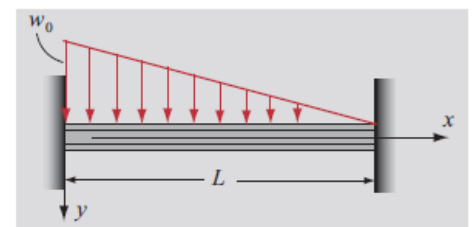

Figure 2.
4. A beam is loaded with a distributed load, as shown in Figure 2. The deflection y of the center line of the beam as a function of the position x is given by the equation,